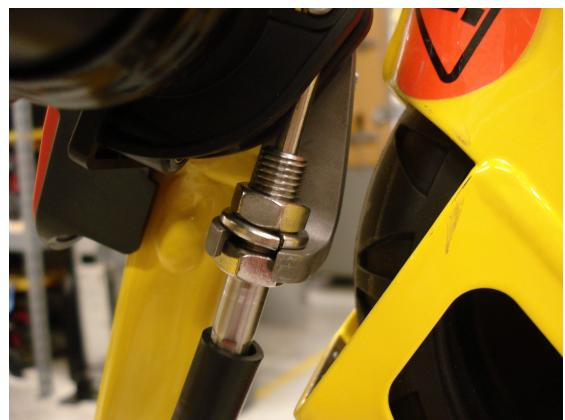

Figure 12 – Barrel nut at the head end
- a. Using a 9/16" combination wrench, adjust the barrel nuts toward the head end of the cot (Figure 12).